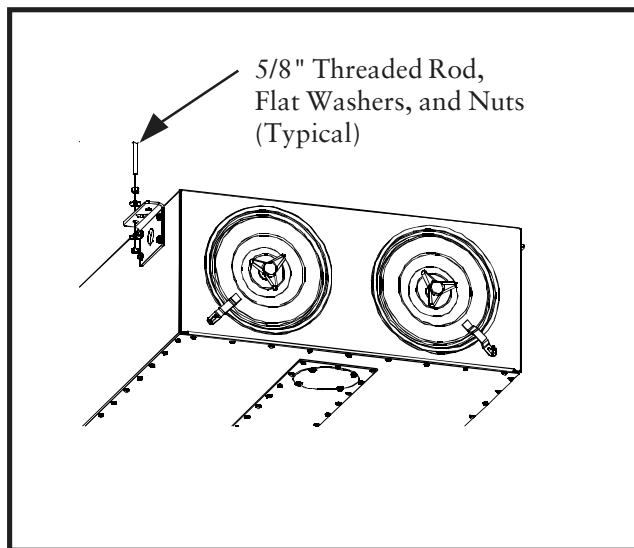

Figure 3
2.4 Preinstallation (See Figure 3)
1. Each T-2000 unit is shipped fully assembled from the factory, except for the trunks, which are attached after the dust collector has been placed. Typically the Trunk 2000 is suspended from the ceiling; however, it can be supported by other means, as long as they are appropriate for the alternate location. Figure 3, Collector Suspension shows the recommended method of suspending the Trunk 2000.
1. Install the T-2000 unit to the ceiling and secure it as directed in Section 2.5, Assembly of Standard Equipment. See also Figure 3, Collector Suspension.